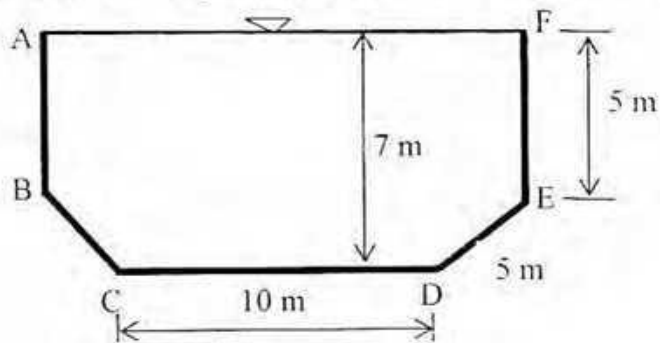

Figure 4
- c. Calculate the total pressure and the depth of the center of pressure on AB, BC and CD surface of a water container shown in Figure 4. The width of the container is 2.0 m 13